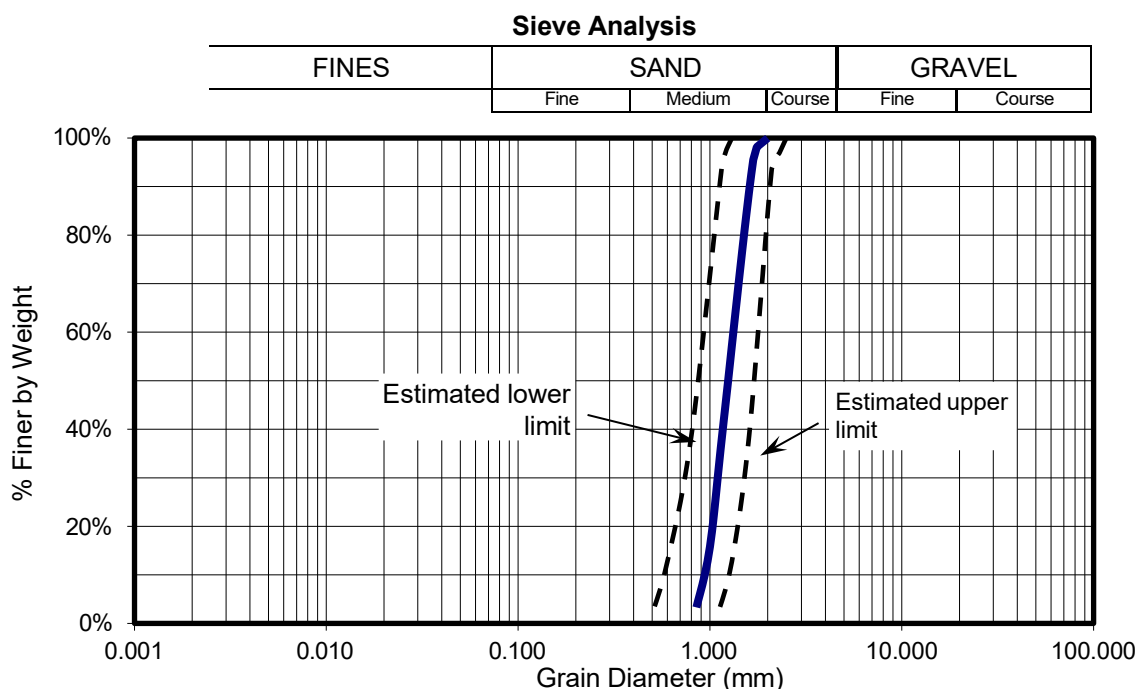

Figure 7: Estimated grain size distribution of backfill sand
8. **Backfill Material** – The backfill material will be sand provided by competition organizers on site. The sand will be a clean, dry, rounded to subrounded sand with grain size as specified in Table 1 and Figure 7. The backfill material must be used as-is: no water, additives, or chemical stabilizers may be placed in the backfill material.
Competition organizers will make reasonable efforts to ensure the competition backfill materials meet the specifications in Table 1 and Figure 7. Teams will be allowed to examine a sample of the competition backfill at the captains' meeting. No backfill samples may be removed from the meeting room. Teams may modify their wall design at this time if they desire. See section 12 below.
- Clean sand with grain size distribution as specified in Table 1 and Figure 7